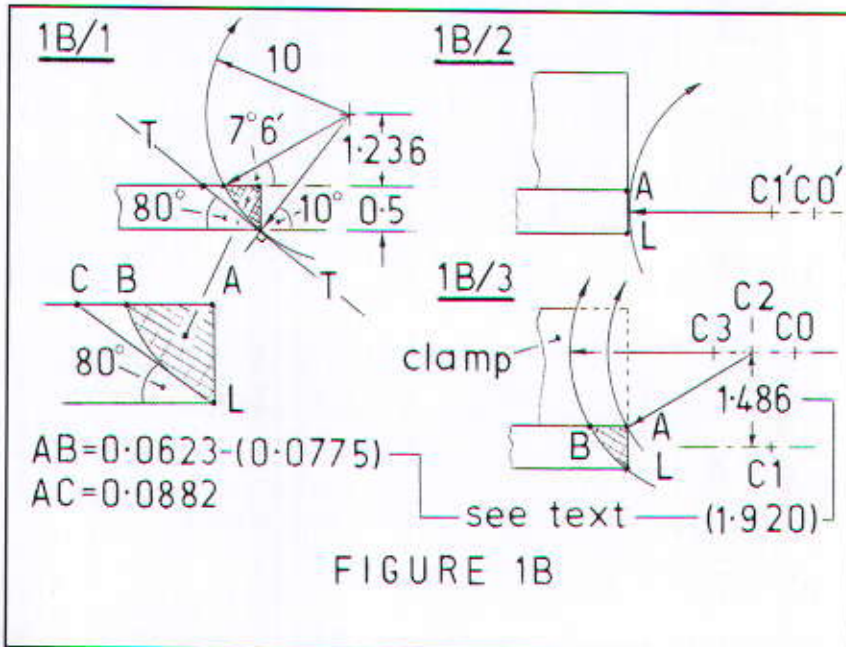

Fig 1B. Aligning and raking tips of teeth
Although all comb segments had been made to the same size, it was found that tips of teeth were slightly out of alignment across the comb: this had to be corrected before finally setting comb on bed plate; a jig was developed for doing this as shown in photo 1. The jig consists of a base board to which the comb and its mounting components are bolted. A "Dremel" drill is fixed to a slide which can be moved along the base board, its distance from teeth tips being controlled by two adjustable M8 studs which pass through threaded brass brackets, nuts lock studs in position. As well as grinding ends of teeth to form a straight line, it was decided to adopt the recommendation of ref 2 (pp 260-1) and hone tips back 80° as shown in fig 1B/1. The figure is grossly distorted to illustrate the very small amount of metal being removed: in particular it should be noted that tips of teeth are nowhere near as pointed as the figure shows. Measurements are based on a grinding wheel of 20mm diameter. Referring to fig 1B/1 and its part-enlargement, we wish to grind away triangular cross-section ALC, LC being tangential to the wheel at L. However, the curve of the wheel removes wedge ALB which is an acceptable compromise, 80° rake being achieved at point L.
For all work described below, tooth tips are clamped down against motion of the wheel using a length of 8x8mm annealed GFS. Lay-out blue is applied to tip ends and clamp face as witness to progress of grinding. The first step, shown by fig 1B/2, is to bring tips into a straight line across the comb. The centre of the wheel is level with the centre of thickness of tips: starting at centre C0, it is gradually brought in to C1, where all tip blues are seen to have been touched, at which stage over-long tips have been brought back into line with the shortest. Wheel centre is adjusted by small amounts between grinding passes along the comb. Next, the wheel is raised 1.486 ($1.236+0.25$), as shown in fig 1B/3, by inserting a shim plate under the slide. It is then brought in from C0 to C2, where the wheel is observed to contact tip corner A after initially cutting into the clamp. Then, with small changes from position C2 to C3, for a total of 0.0623mm, interspersed with grinding passes along the comb, the wheel
reaches point B, blue marker having been totally removed from tips, so completing the rake-back. Pitch of M8 studding is 1.25, so 0.0623 is equivalent to a total of 18° turn of the adjusters as the wheel grinds across from A to B. Grinding commenced using diamond-coated cutting discs, but these proved too coarse and soon lost their edge. A change was made to using carborundum, mini cutting discs, three being screwed together in the "Dremel" arbor: the two rear discs were to give support to the leading one. Of necessity, the drill was at a slight angle to the line of tooth tips and, as the leading disc wore down, it was removed and a new trailing disc was added, so maintaining cutting keenness. These discs were 25mm in diameter calling for slightly greater raising of arbor centre (C1 to C2 in fig 1B/3 being 1.920) and giving a deeper cut (AB finishing at 0.0775). AC is unaffected, being determined by rake angle at L and tip thickness. The author is not claiming to be working to the degree of accuracy implied by the calculated figures quoted above: these are left unrounded in order to emphasize the minimal amounts of metal being removed. We return now to the task of setting the comb on the bed plate.